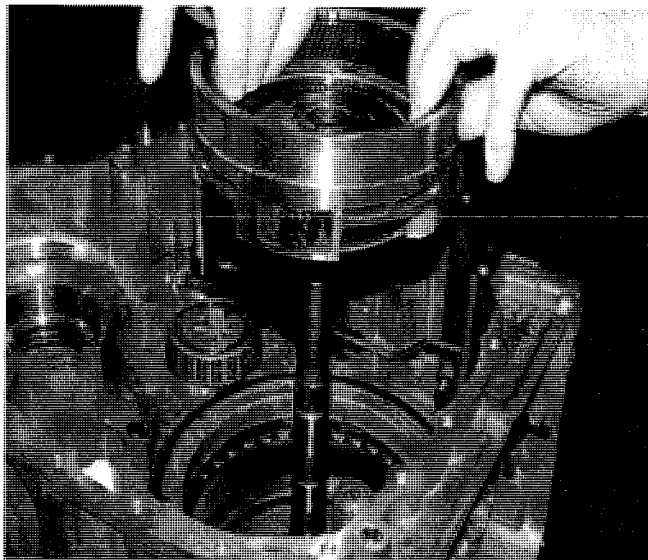

Fig. 7 Gear 3 Annulus Gear Assembly
20. Remove the Gear 3 Annulus and Carrier Gear assembly. See (Fig. 7).